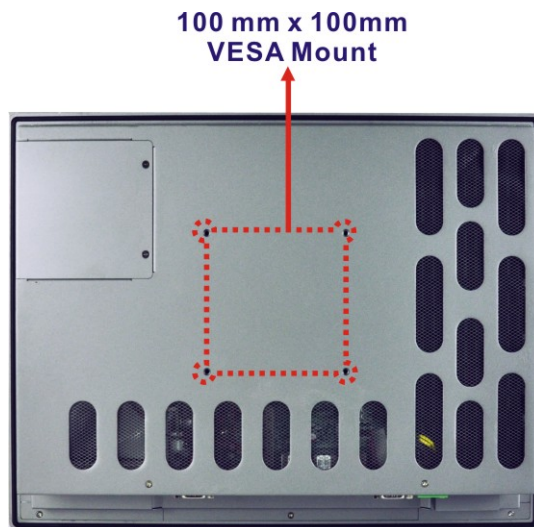

Figure 3-24: Stand Mounting Retention Screw Holes
Step 1: Locate the screw holes on the rear of the PPC-5152-D525. This is where the stand bracket will be attached. The stand mount retention screw holes are shown in **Figure 3-24**.